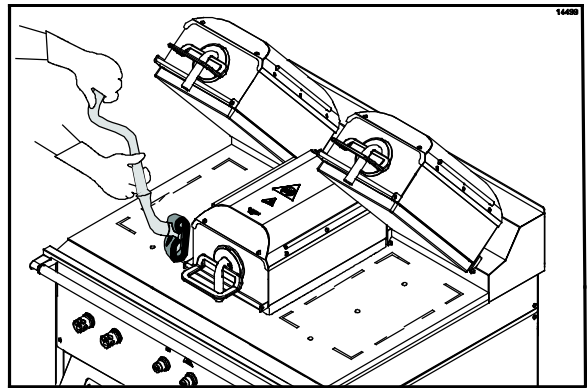

Figure 54
21. Apply the grill cleaner to both sides of the center platen. (See Figure 54.)